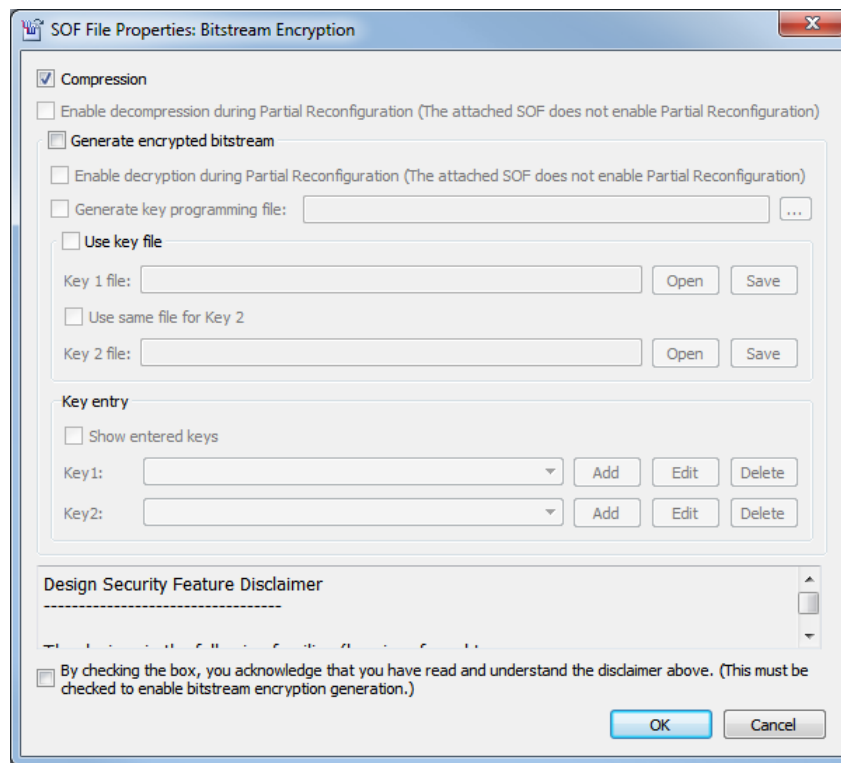

Figure 36. Enabling file compression.
6. Click and highlight the newly added .sof file in the list, then select `Properties`. You should see the window shown in Figure 36. Enable file compression by ticking the checkbox as shown, then press OK.